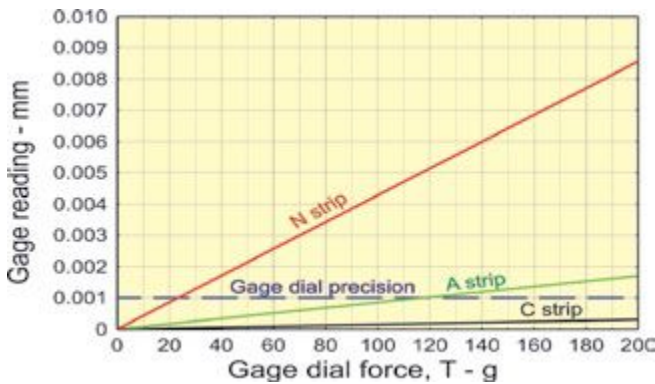

Fig.4 Effect of gage dial force on Almen strip deflection.
Equation (4) can be used to plot the variation of strip deflection caused by a range of gage tip forces. This has been done in fig.4 where the average thicknesses of Almen strips have been substituted.
For a specified gage dial precision of 0.001mm (1 micrometer), strip deflection would not be detectable for **C** strips, barely detectable for **A** strips but would be expected for **N** strips. As an example consider a perfectly-flat unpeened Almen **N** strip being placed on an Almen gage whose dial exerted a tip force equivalent to 140g. Fig.4 predicts that the gage would read a positive deflection of 0.006mm. Turning the perfectly-flat strip over on the gage would again indicate a positive deflection of 0.006mm. This is equivalent to a “double phantom pre-bow”!
gage deflection. For the digital gages the tip force exerted on an Almen N strip would be predicted to induce a deflection of between 0.001 and 0.002mm (according to fig.4). For the analogue gages the corresponding deflection would be in the range 0.003 to 0.006mm.
Dial pointer force has been shown to be an important factor when using **N** strips. This is based on equation (4) which predicts that measurable dial pointer deflections of **N** strips are to be expected – equivalent to a "pseudo double pre-bow". This can be allowed for by assuming that it is a genuine pre-bow. An alternative solution, particularly appropriate for aluminum-based aero strips with their lower elastic modulus, is to use a non-contacting displacement meter. The validity of the important equation (4) has been confirmed by employing the same push/pull spring balance described earlier. The procedure is illustrated in fig.9 and the earlier prediction that 140g of force would induce a 0.006mm deflection was verified exactly. **N** Almen strip deflections predicted in fig.4 were also verified.